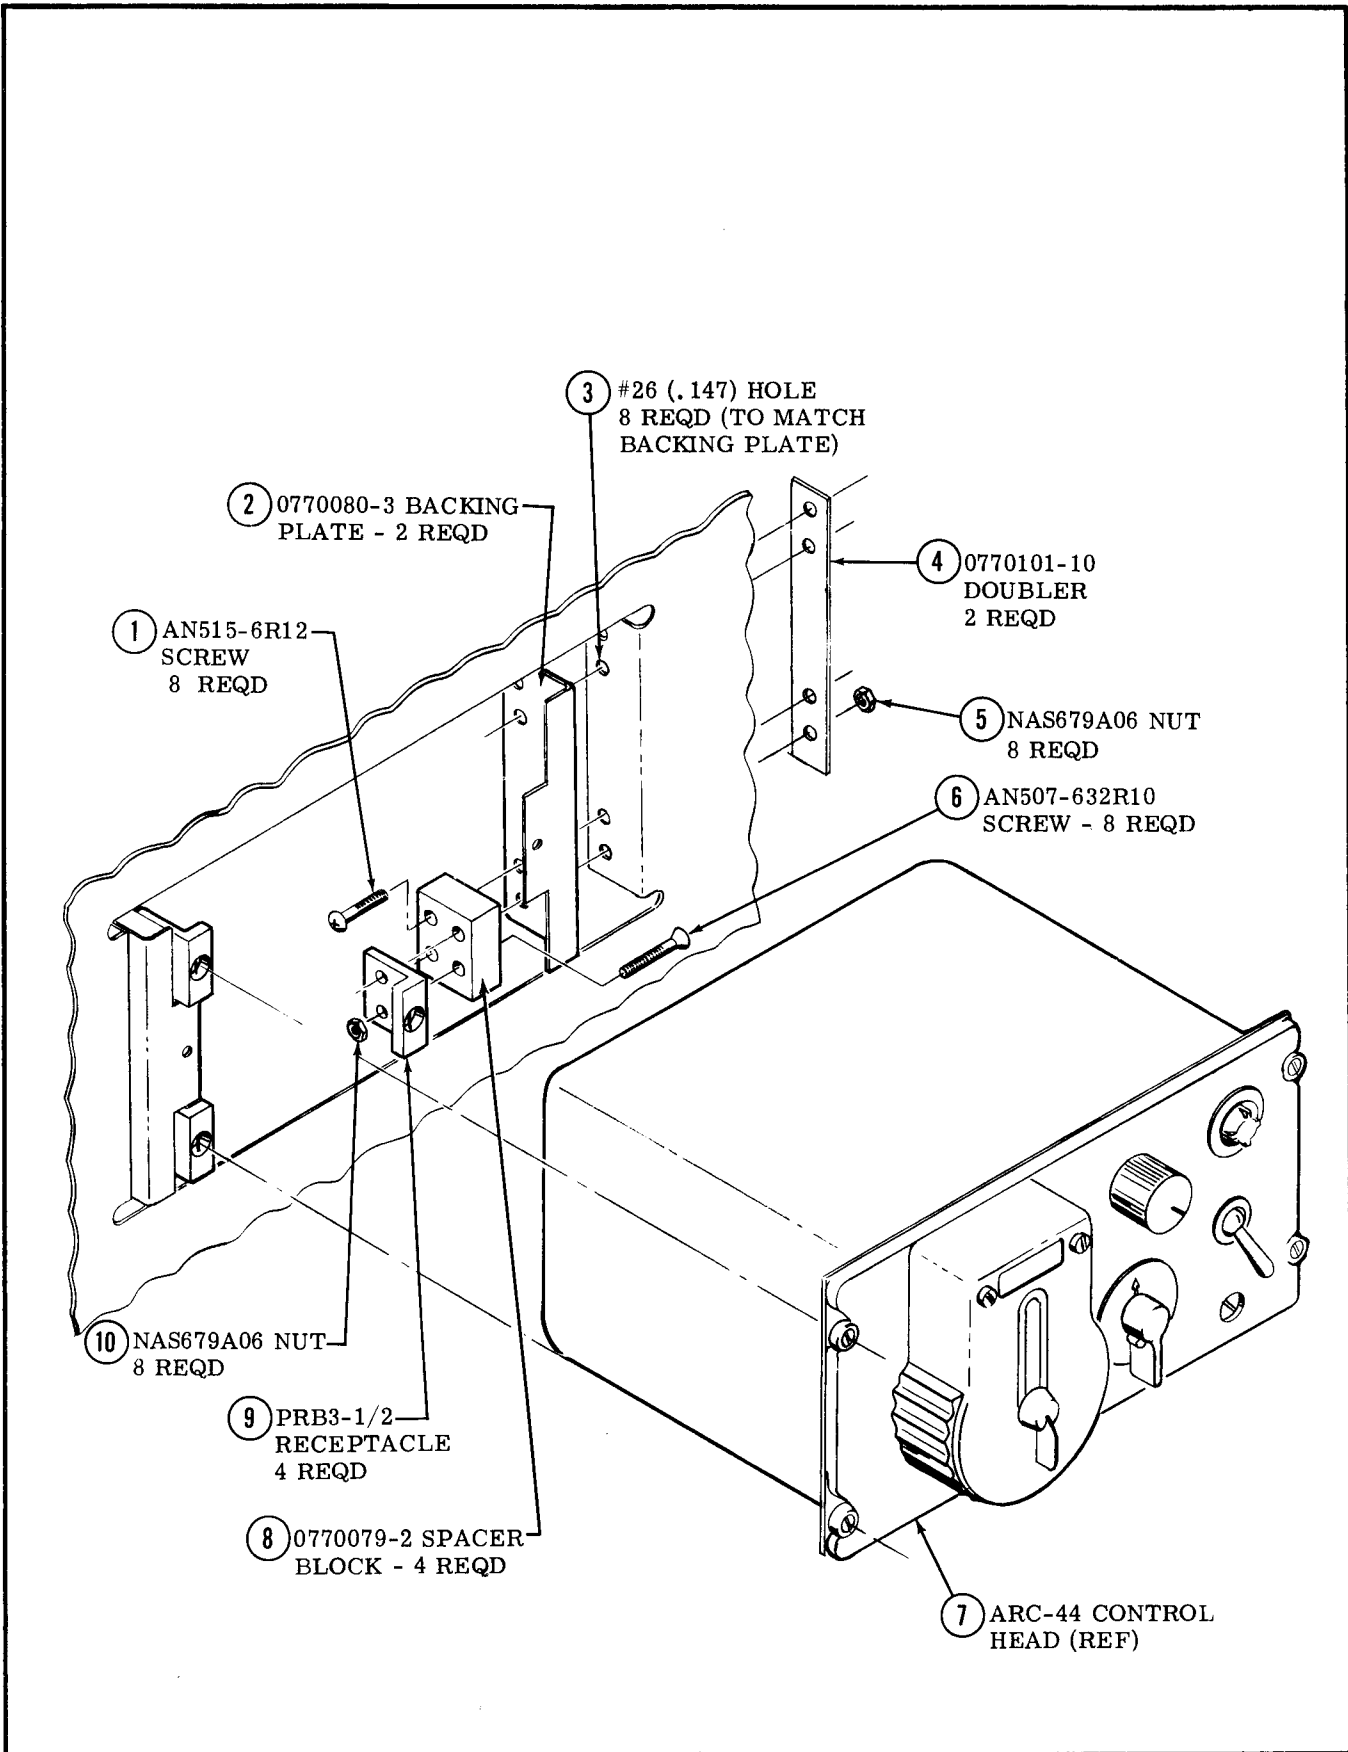

Figure 4. ARC-44 Control Head Relocation
- (18) Replace connector hoods removed in step 3. Tie all loose wiring into existing wire bundles.
- (19) Replace RT-302 & R-318 dust covers removed in step a. (4).
- (20) Install two circuit breakers (3) in empty radio circuit breaker spaces. Wiring to be added later.
- c. Relocation of ARC-44 control head (Refer to figure 4).
- (1) An existing radio cutout will be found in the aircraft's stationary panel on the right hand side, under the engine instrument cluster. Using backing plates (2) for patterns, locate and drill holes (3).